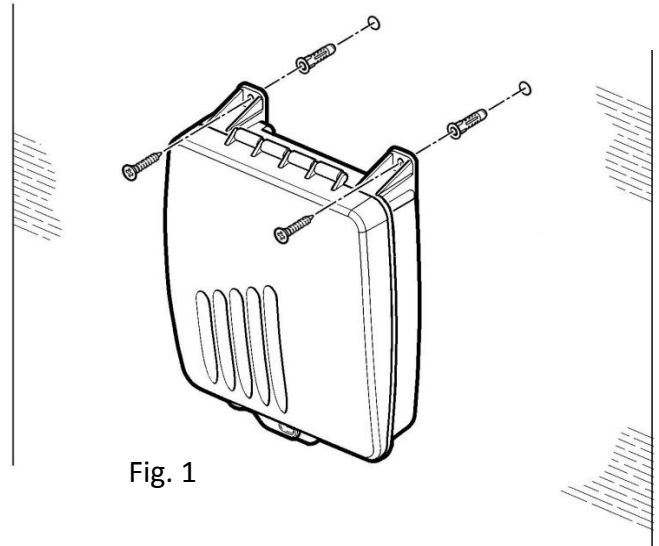

Fig. 1
3. Secure the unit to the wall – see fig. 1